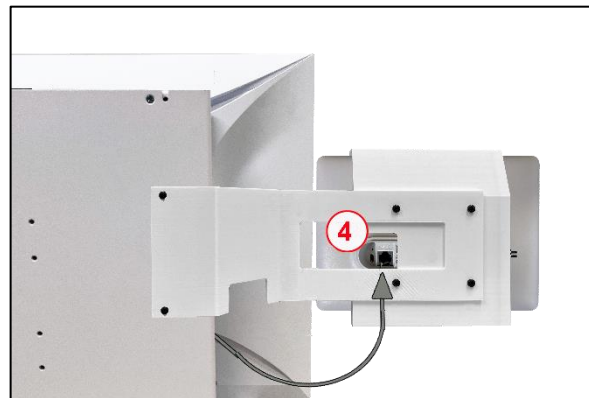

Figure 27. Cisco Navigator Connection
The RJ45 male connector (4) is then connected to the input connector on the rear of the Cisco Navigator, as shown in Figure. 27.